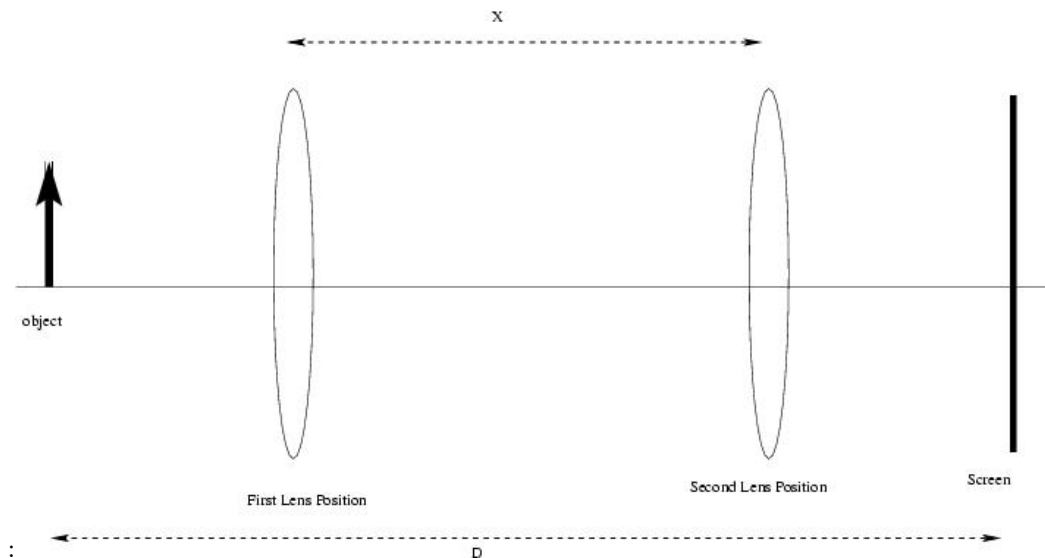

Figure 7.1: Diagram of the method of conjugate foci.
1. Mount the arrow at the far left as in Fig. 7.1.